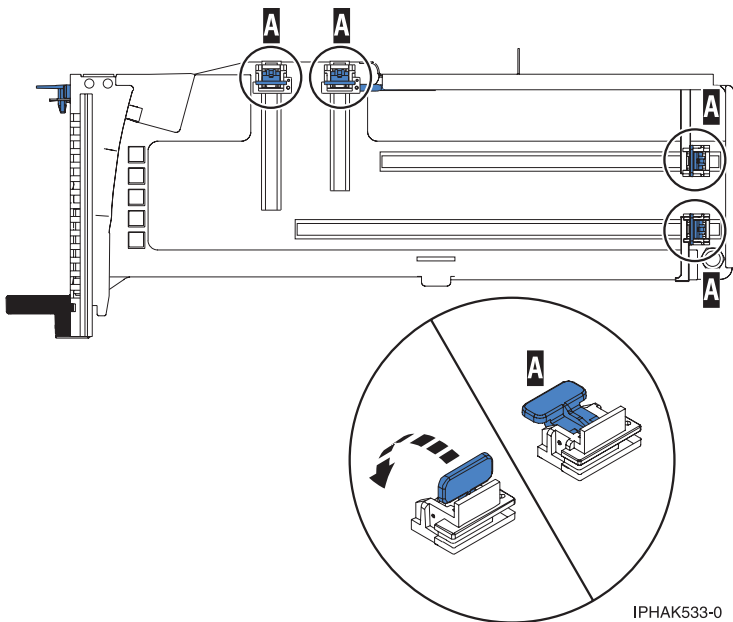

Figure 72. Adapter retainers in a cassette
- a. Ensure that all of the adapter retainers have been pushed out to the edges of the cassette to allow the placement of the adapter. See Figure 72.